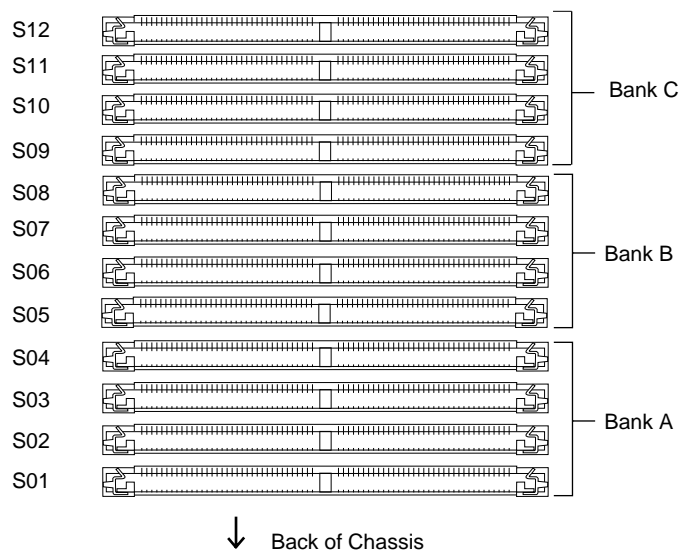

Figure 3-10 Identifying the SIMM Slots and Banks
Twelve sockets are split into three banks—A, B, and C. The four sockets closest to the center of the workstation make up Bank C. The next four sockets make up Bank B. The four sockets closest to the rear of the chassis make up Bank A. The banks are labeled on the baseboard. See Figure 3-10.
- Install SIMMs consecutively, in groups of four, beginning with the open slot farthest away from you (from Bank C to Bank A). For example, if Bank C is full, beginning installing SIMMs in S08, the slot in Bank B that is closest to Bank C. (See Figure 3-10.)